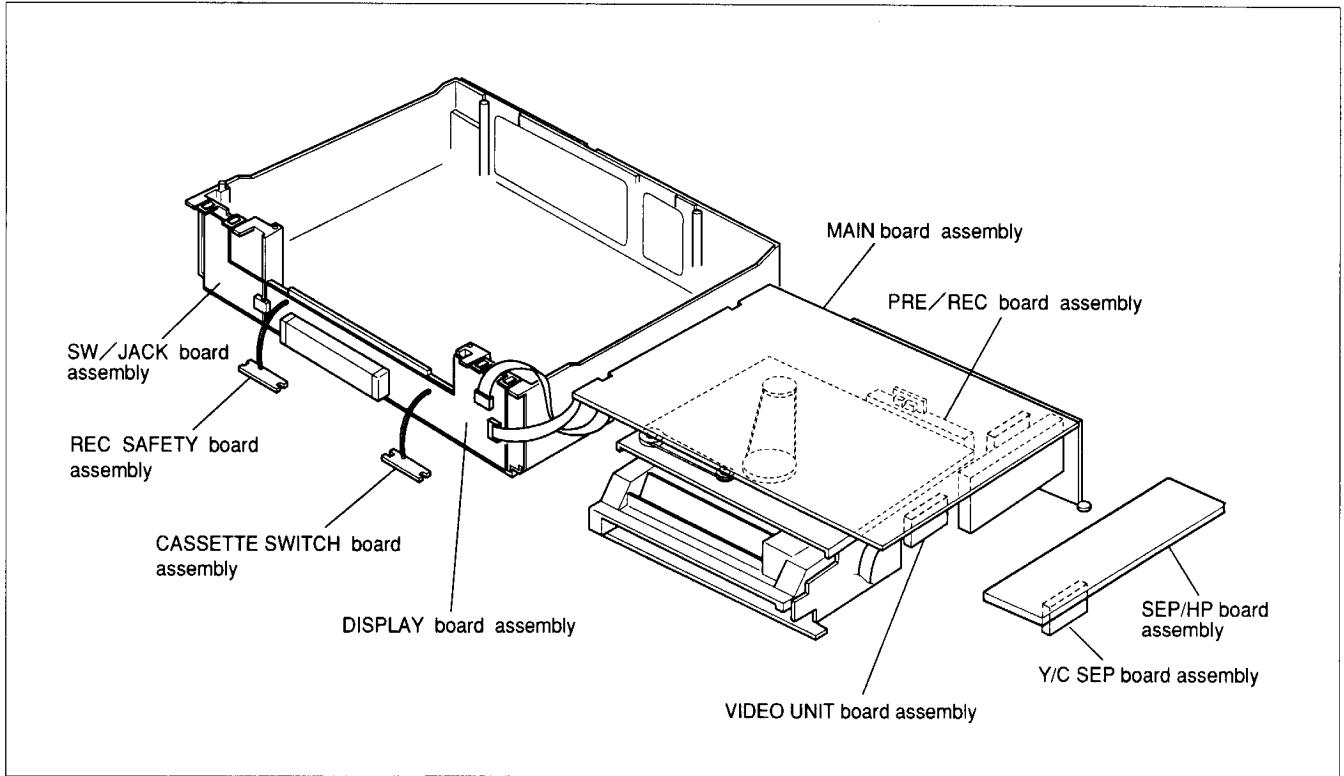

Fig. 1-3-3
- (5) Turn over the Mechanism assembly and Main board assembly then connect CN5 and CN3 of the DISPLAY board assembly.
- (6) Carry out checks & repairs as necessary as shown in Fig.1-3-3.